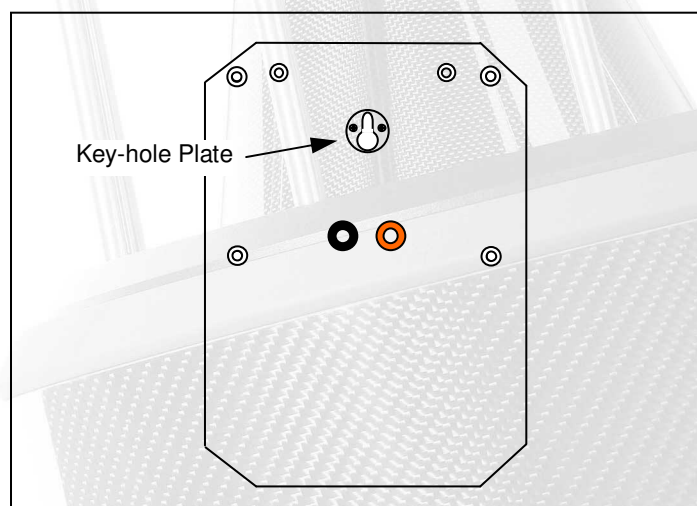

Figure 4. PQS-100 Plus Rear Face
5. Pick up a PQS-100 Plus by the upper plate and holding it with the rear face away from you, fit the key-hole plate in the rear face of the loudspeaker figure 4, over the loudspeaker suspension screw you have just fitted – C, figure 3i.